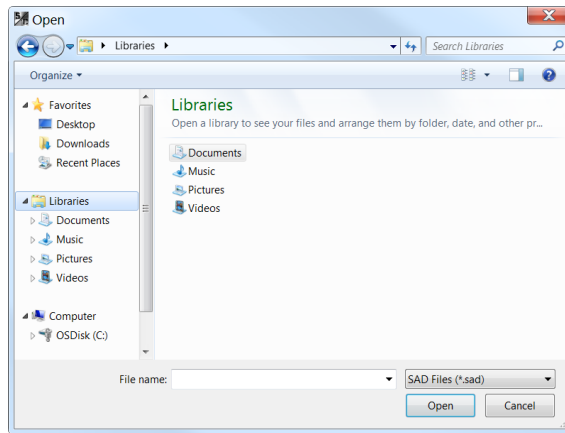

Figure 33. Open Security Database window.
STEP 2. The **Open Security Database** window will open. See Figure 33 on page 19. Enter the file name of the SAD database, and click the **Open** button.